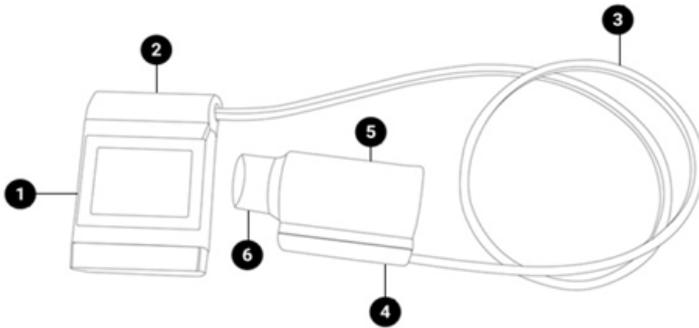

Figure 2 Micro with remote flowhead
1. Remove the flowhead from the main body of the device by gripping and sliding it firmly in the direction of the flowhead cone (6).
2. Connect the remote flowhead adapter (4) to the base of the flowhead (5), connect the device cap (2) to the device (1).
3. Unwrap the flowhead connection tubing (3) and connect one end to device cap (2) and the other end to the remote flowhead adapter (4). See Figure 2. The tubing is keyed, so it will only connect one way.